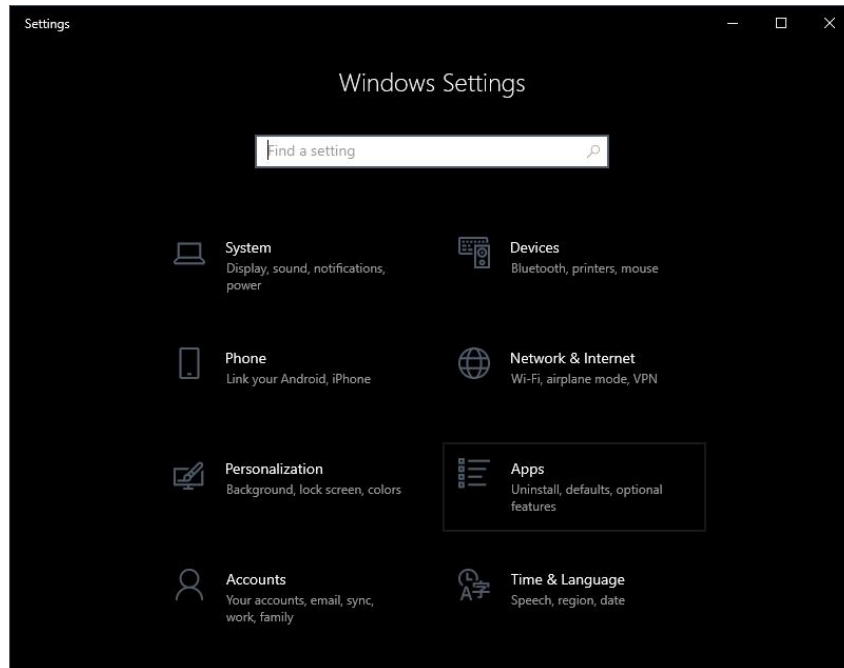

Figure 19: *Opening windows Apps settings*
2. Click on the Apps icon shown in Figure 19 to enter the Apps Settings. Find Avid® Reader Tools in the list on the right.